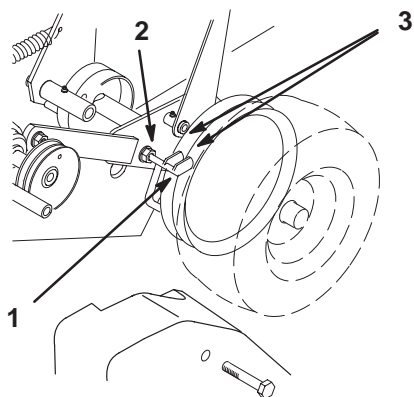

Figure 49
2. Loosen the locknut holding scraper to the engine frame (Fig. 49).
3. Rotate scraper until they align with center of pulley grooves (Fig. 49).
4. Tighten the locknut (Fig. 49).